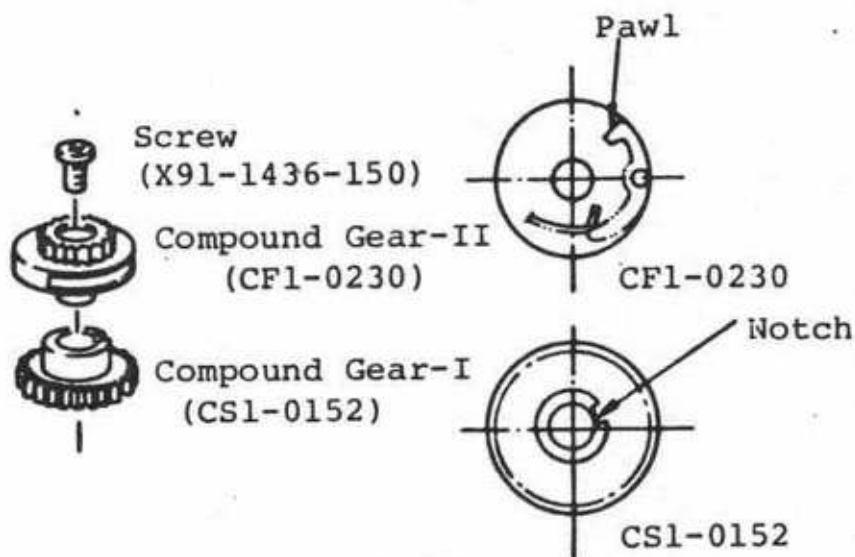

Fig. 2-14
3. Install as indicated in figure 2-14.